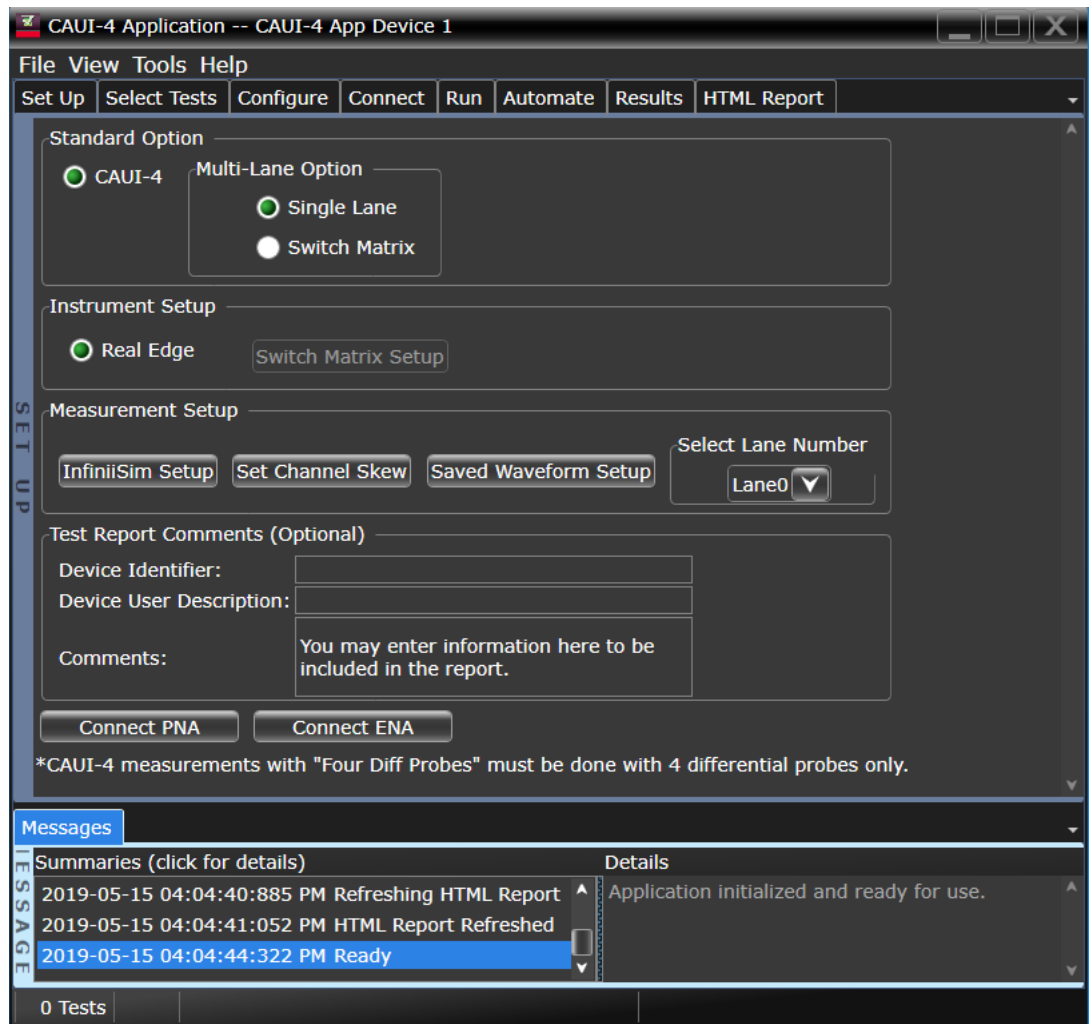
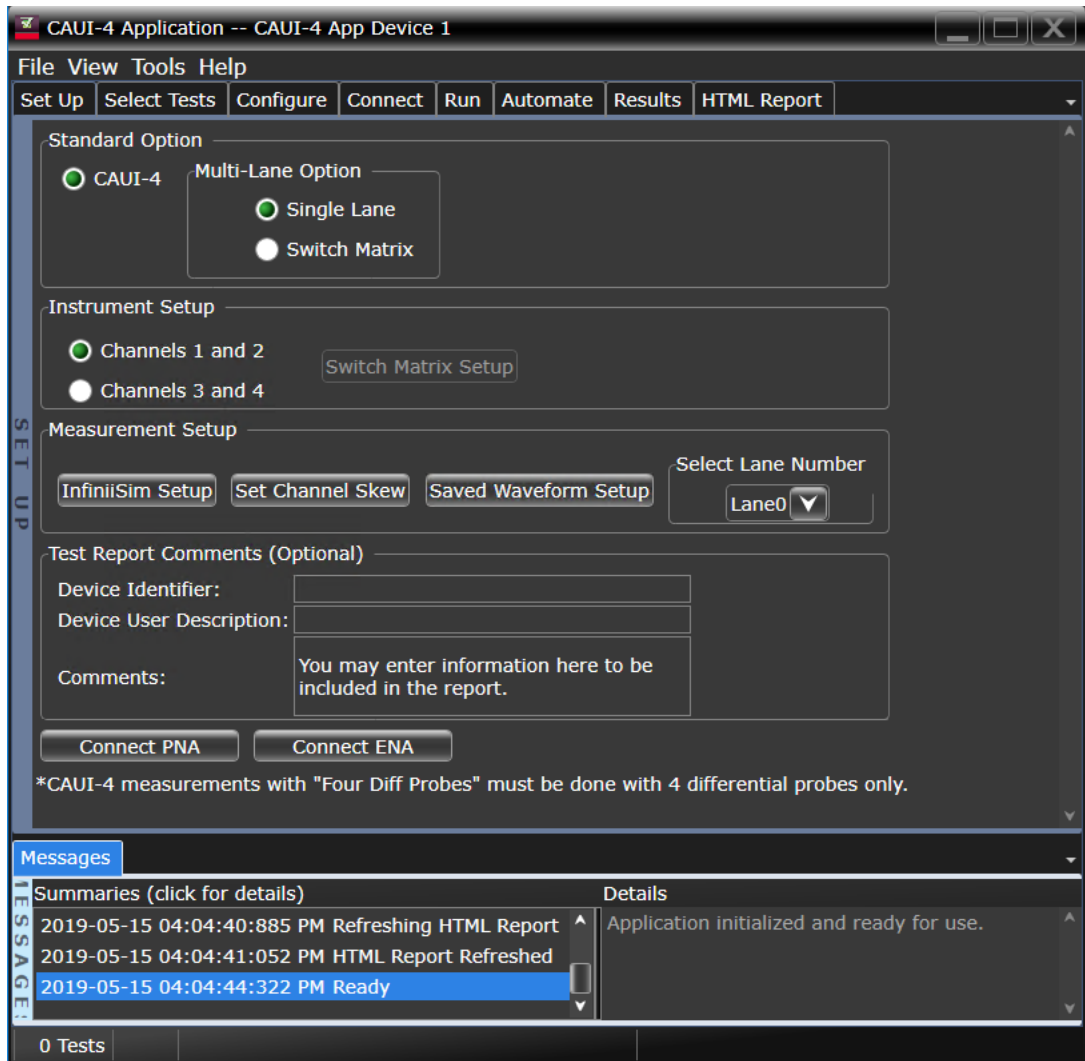

Figure 5 CAUI-4 Test Application main window on a Z-Series DSO
Figure 6 CAUI-4 Test Application main window on a UXR Oscilloscope
- **Figure 5** shows the Keysight D9010CAUC CAUI-4 Test Application window as it appears when launched within the Infiniium application of the DSO Q-Series Oscilloscope. The Instrument Setup area in the Set Up tab displays Real Edge, which indicates Channels 1R and 3R on the oscilloscope.
- **Figure 6** shows the Keysight D9010CAUC CAUI-4 Test Application window as it appears when launched within the Infiniium application of the UXR Oscilloscope. The Instrument Setup area in the Set Up tab displays the corresponding Channel assignments.
- 1 In the **Set Up** tab (shown in Figure 5 and Figure 6), select a **Multi-Lane Option** to determine the lane where the tests must be performed for the CAUI-4 standard.
- 4 In the **Connect** tab, view the instructions along with the connection diagram to ensure that all requirements for the physical setup of the testing instruments and the DUT are met. Click **Connection Completed** to indicate to the Test Application that the required hardware setup is complete. The connection diagram for most of the tests matches the one shown in Figure 5 for DSO-Q Series Oscilloscopes and Figure 6 for UXR Series Oscilloscopes. However, it is a good practice to verify the connection diagram and instructions displayed under this tab. The Test Application automatically indicates any changes in connections, if needed, during test runs.